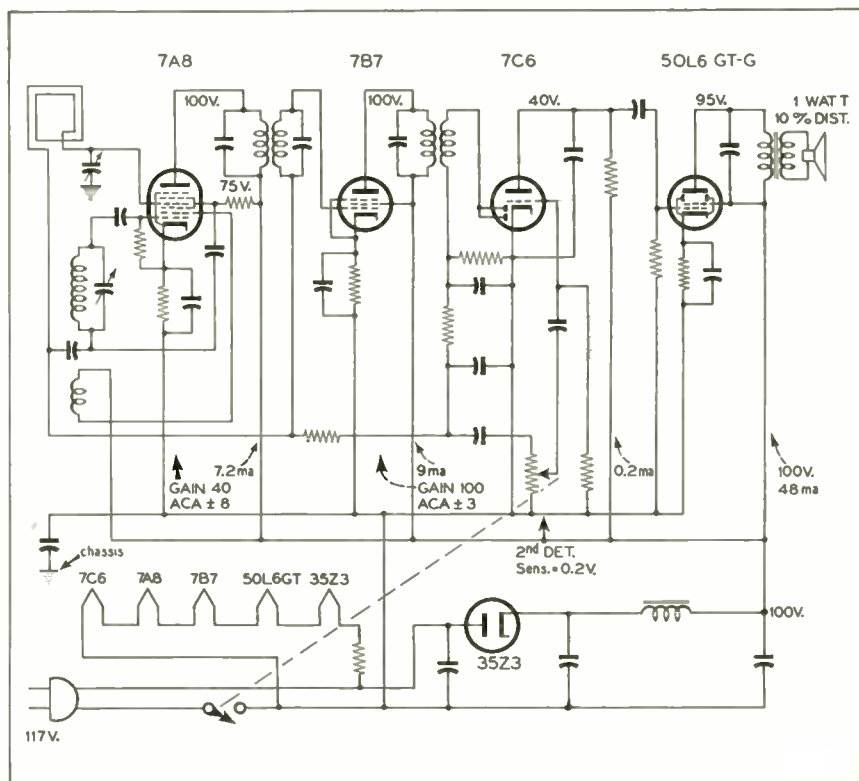

Fig. 1. Preliminary schematic of a small receiver, showing estimated voltages and currents
After agreeing on the general design points, the next step is to make a preliminary wiring diagram such as shown in Fig. 1. This should include data as to voltages and currents required, approximate gain and selectivity per stage and power output. At this time we are not yet concerned with final tonal fidelity, except for the specification of the speaker size which should have been decided when the assignment sheet was written. In other words, the audio portion of the circuit should be more or less standard, without extra bass boosting or other special circuits. The preliminary wiring diagram should be as simple and basic as is possible to conceive. All unnecessary parts should be omitted for three reasons, (1) parts cost money, (2) every part is a potential source of trouble during the life of the receiver, (3) extra components require additional labor and time during production. This is probably the basic difference between small and large receiver design since in the latter extra features are included as a matter of course.